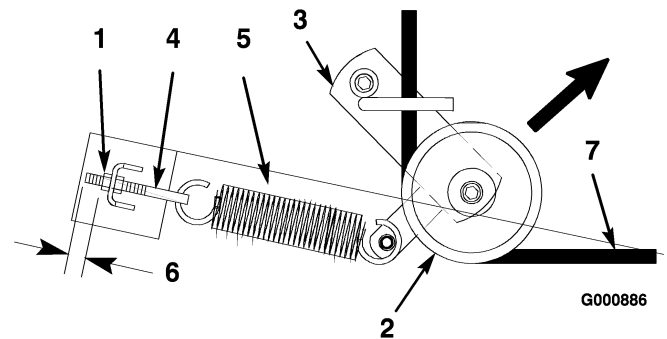
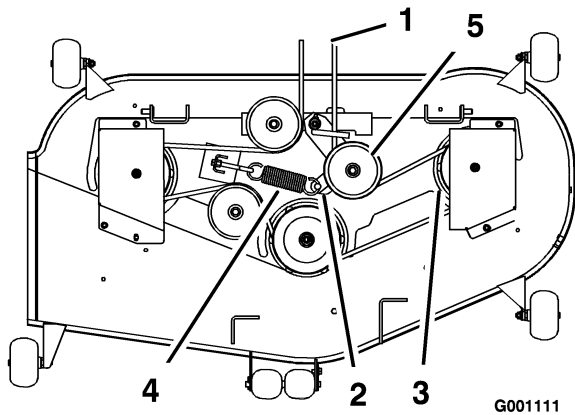

Figure 49
Figure 50
- Pull the idler pulley in the direction shown in Figure 49 and roll the belt off of the pulleys.
- Route the new belt through the idler arm and around the idler pulley (Figure 49).
- Pull the idler pulley in the direction shown in Figure 49 and route the belt onto the other pulleys (Figure 50).
Note: Check to ensure that the length of exposed thread on the spring eye bolt is 1/8 in. (3 mm) (Figure 49).